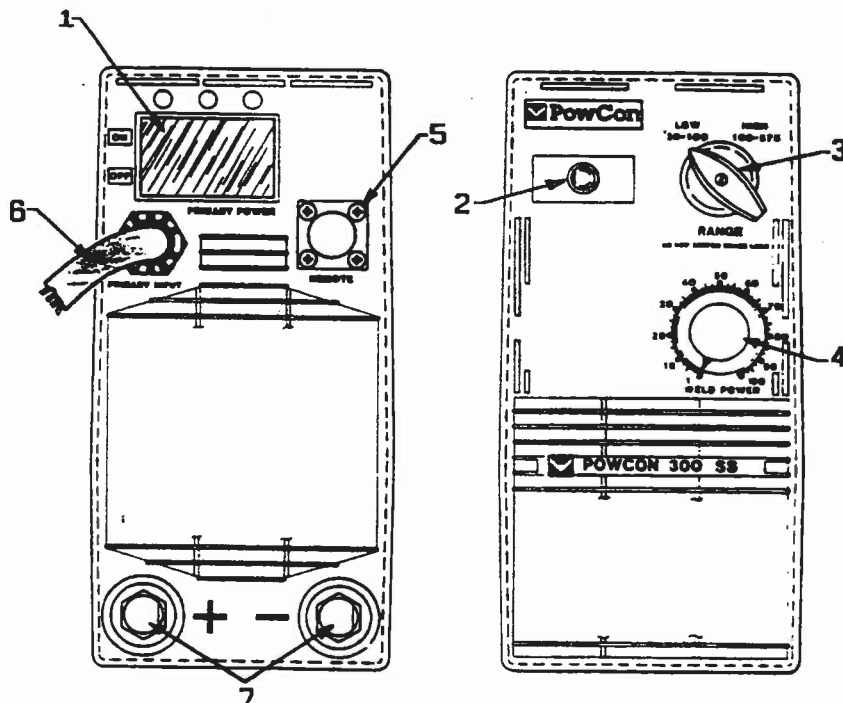

Figure 5, Front and Back Panel Controls and Connection Locations
- 2) Copper buss bars for fan motor (left rear side of unit, see Figure 5).
C) Identify the voltage change-over instruction labels for the copper buss bars and working capacitor board located as shown in Figures 5 and 6.
A) Locate the working capacitor PC board as shown in Figure 5.
A) Locate and read the instruction label for the copper buss bars shown in Location 3 of Figure 5.